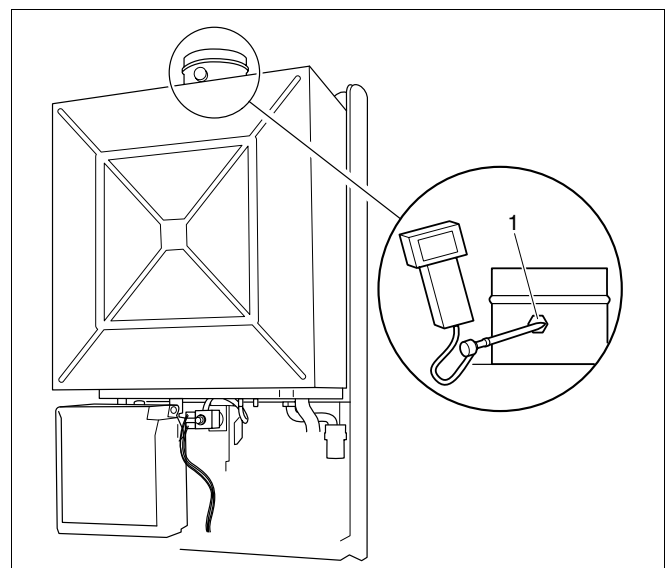

Fig. 34 Measuring points on exhaust conduit
- Unscrew the corresponding sealing closure (fig. 34) on the connection adapter for the combustion-air/flue-gas system and replace it once the measuring operation in question has been carried out.
Key to fig. 34: